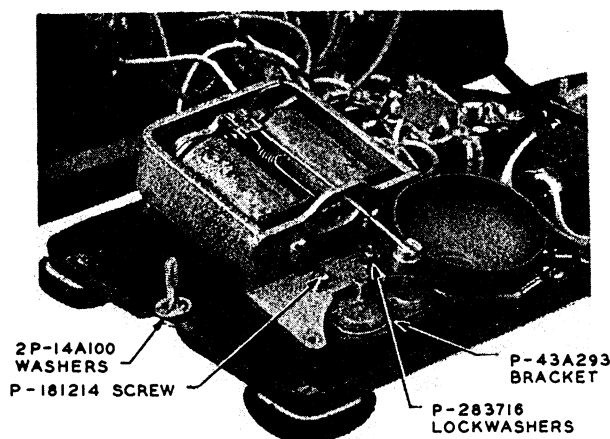
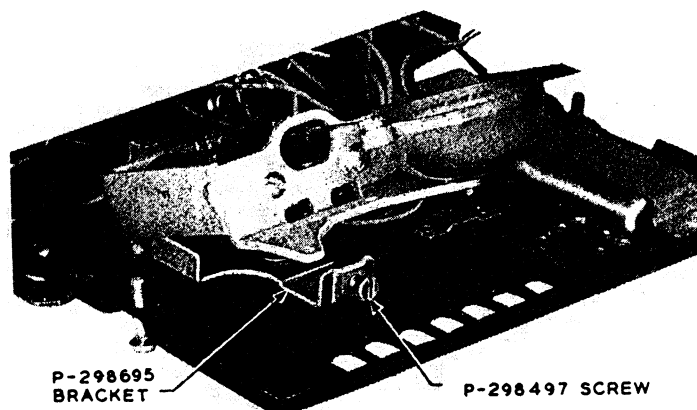

Fig. 22 — Ringer Assembly Using P-43A293 Bracket
Fig. 23 — Ringer Assembly Using P-298695 Bracket
3.08 On desk-type sets the terminals of the 6-type dial may obstruct the ringer clapper rod when the ringer is mounted on a triangular mounting bracket. To provide the necessary clearance, two captive mounting washers should be placed on each of the mounting screws which hold the upper housing to the base plate of the telephone set (see Fig. 22).
3.10 Ringer assembly where the P-43A293 bracket is part of the telephone set mounting is shown in Fig. 22. When the P-298695 bracket is part of the telephone set mounting, mount the ringer as shown in Fig. 23. The left ringer gong is omitted for clarity.